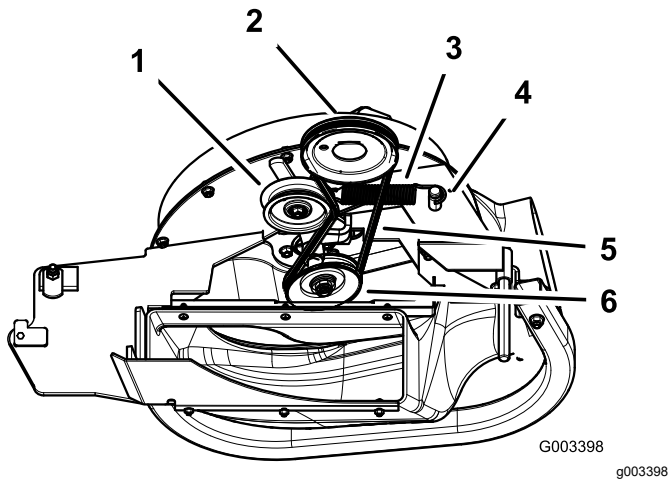

Figure 41
3. Pull back on the spring-loaded idler pulley to relieve the belt tension (Figure 41).
5. Install the new belt around the blower pulleys and the mower-deck pulley (Figure 41).
7. Pull back on the spring-loaded idler pulley and install the belt onto the spring-loaded idler pulley (Figure 41).